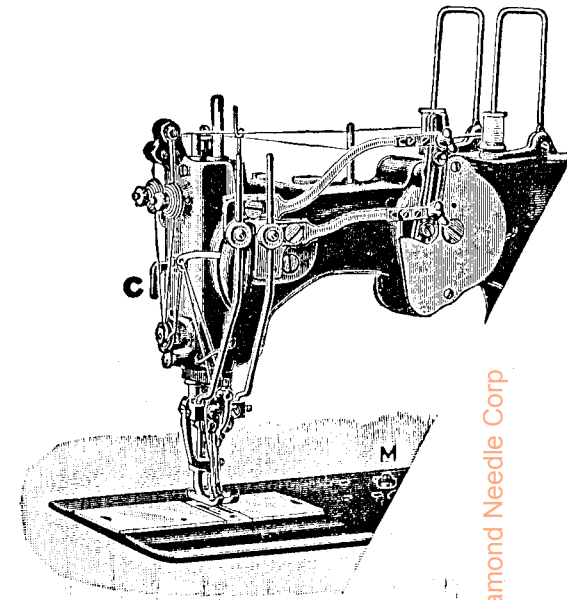

FIG. 21
If the openings appear "feathery" or show "left threads," a finer adjustment of the screw at (M, see Fig. 21) is necessary; turning screw (M) outward lengthens the stitch toward the operator and removes the cause of "left threads." Tighten the check nut after turning the screw.